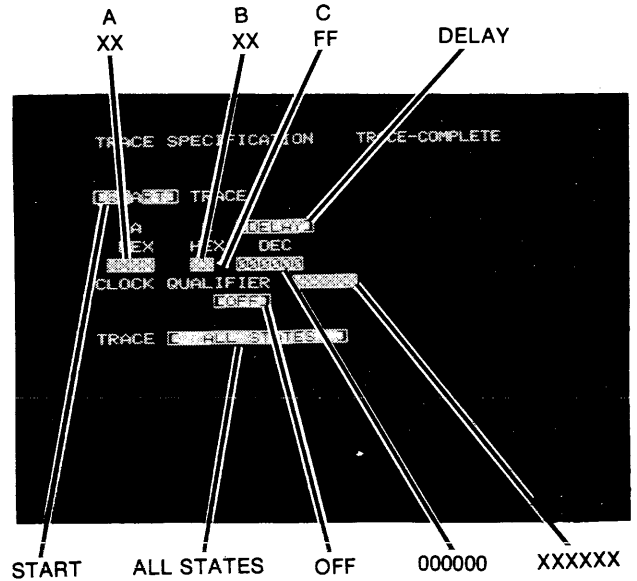

Figure 4-5. Trace Specification for Clock, Qualifier, and Data Inputs Tests
- f. Use CURSOR keys to move cursor to each field in menu. Set up menu according to figure 4-5.